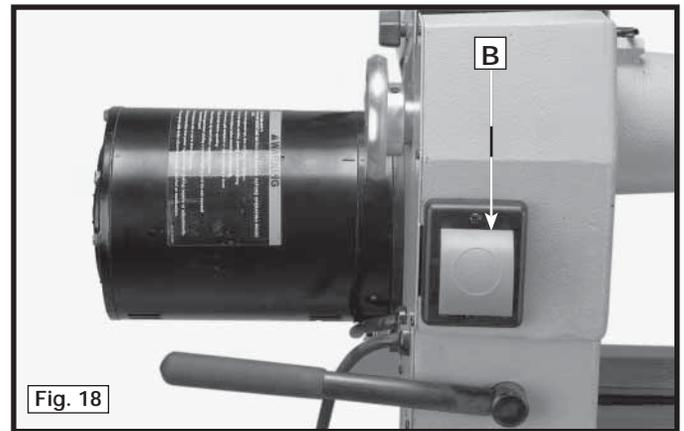
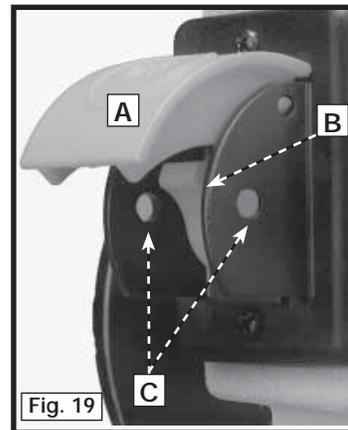
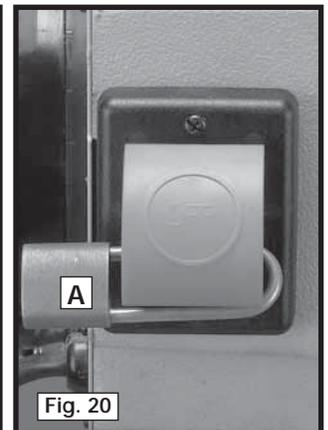

Fig. 18
Fig. 19
Fig. 20
The power switch, located under the red switch cover (B) Fig. 18 controls the electrical power to the machine. Lift the switch cover (B) and move the switch up to the "ON" position. To turn the power off, push the switch cover (B) down.
Fig. 18 shows the switch with switch cover down in the "OFF" position. Fig. 19 shows the lathe in the "ON" position (switch cover(A) up and power switch (B) up).
**⚠ WARNING** When the machine is turned off using the switch cover (A) Fig 19, the spindle will free spin until it stops.
**IMPORTANT:** When the machine is not in use, the switch should be locked in the "OFF" position to prevent unauthorized use, using a padlock (A) Fig. 20 with a 3/16" diameter shackle inserted through the holes in the switch plate (C) Fig. 19.
**IMPORTANT:** For emergencies, use **ONLY** the red switch cover (A) Fig. 19 to stop the machine. Also, when leaving the machine, lower the switch cover to cut the power to the whole machine. Pressing the stop button on the control panel only cuts power to the adjustable speed drive. This control is still energized as long as the power switch is on.